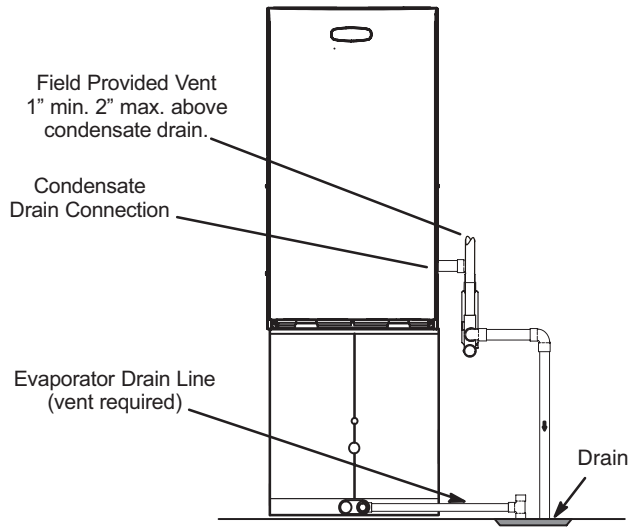
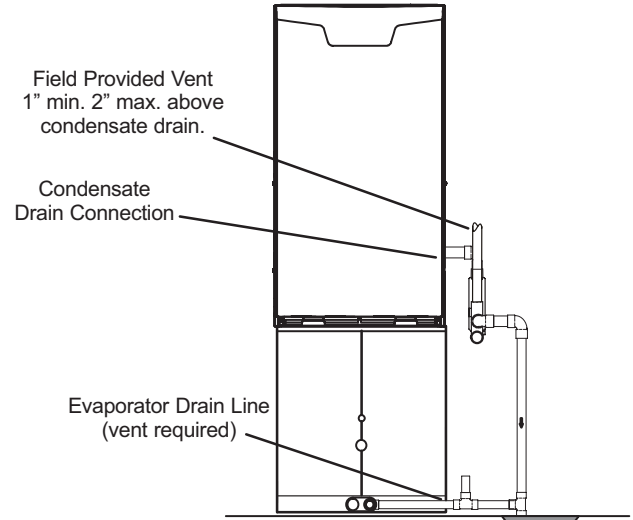

FIGURE 49
FIGURE 50
- 5 - FIGURE 49 shows the furnace and evaporator coil using a separate drain. If necessary, the condensate line from the furnace and evaporator coil can drain together. See FIGURE 50. The field provided vent must be a minimum 1" to a maximum 2" length above the condensate drain outlet connection.